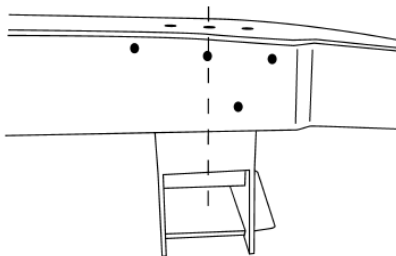

Figure 5- New Crossmember Fitment
- 7.) Now it is time to start fitting the new crossmember. Slip it into the frame and center it on the scribed axle center line (**Figure 5**). If it does not fit, check that your frame is the correct width. It should be 27-3/8" wide at the axle center line (scribed line). If it is that dimension, then grind the sides of the crossmember until you can get the crossmember in place, as shown. Tack weld in place, check location, then weld in place, welding all around both ends, top, sides, and bottom. If you installed a temporary brace across the rails, you can now remove it.